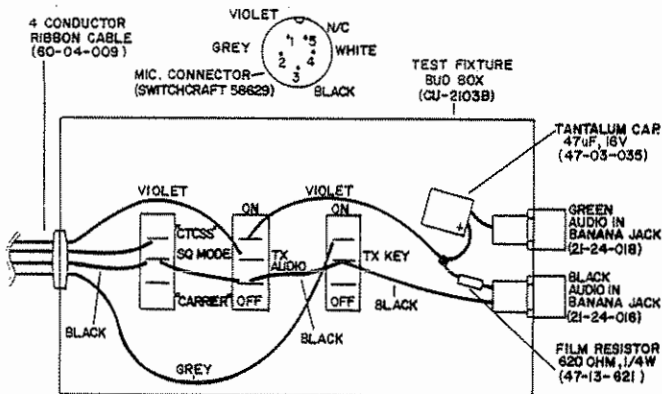

Figure 5-1
All modules should be in place and secured with mounting screws before alignment of the Desktop Repeater is attempted. A test fixture used to facilitate alignment procedures may be constructed as shown in Figure 5-1.
5. Test fixture/mic interface (see figure 5-1)